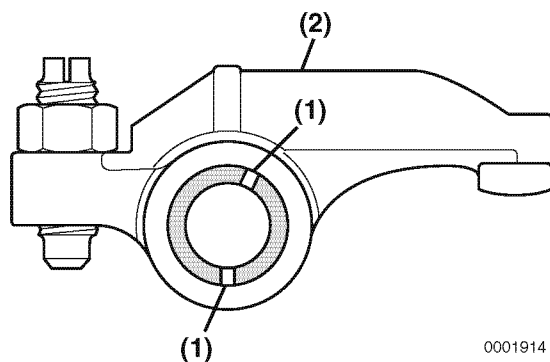

Figure 6-35
Note: Ensure the lubrication holes (**Figure 6-35, (1)**) in the rocker arm shaft are oriented correctly with respect to the rocker arms (**Figure 6-35, (2)**).